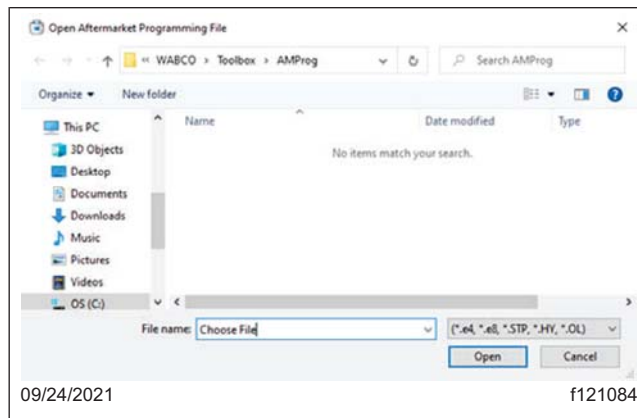

Fig. 20, Locating and Selecting the Configuration File
25. Use the file selection box to locate and select the configuration file that was downloaded. Confirm the part number and VIN of the vehicle. Select the file, then select 'Open.' See Fig. 20.